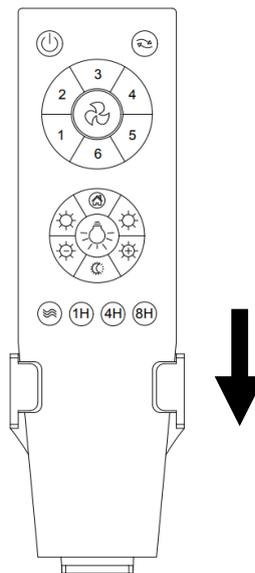

Fig. 7b
2. Slide the remote into the holder to rest the remote. (Fig. 7b)